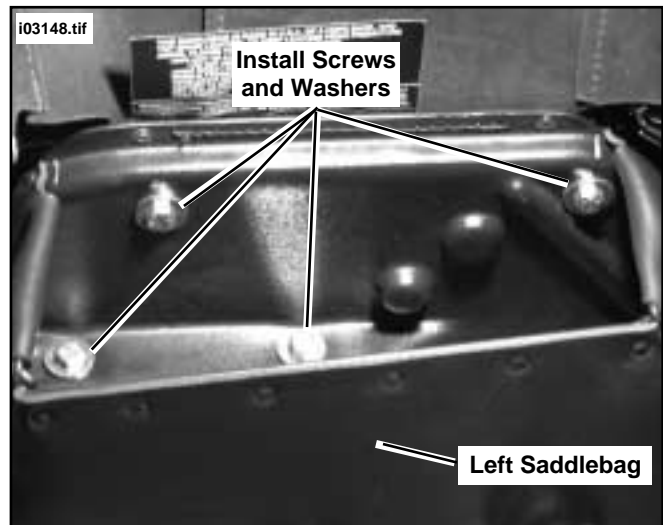

Figure 23. Install Left Saddlebag to Support Plate
1. See Figure 23. Obtain Left Saddlebag (P/N 90405-00) from kit. Install saddlebag onto left saddlebag support plate by aligning the saddlebag mounting slots with the pressed-in nuts on the saddlebag support plate. On inside of the saddlebag there are two slots to align on the vertical portion of the saddlebag plastic back, and two slots on the horizontal ledge. Install a Hex Cap Screw (P/N 2851) and a hardened washer (P/N 6519) at each of the four mounting locations. Finger-tighten all four cap screws first to insure proper thread engagement, then snug all four, starting with the two on the horizontal ledge. Finally, tighten all four being careful not to deform the plastic. Tighten only to 15 ft-lbs (20.3 Nm) maximum.